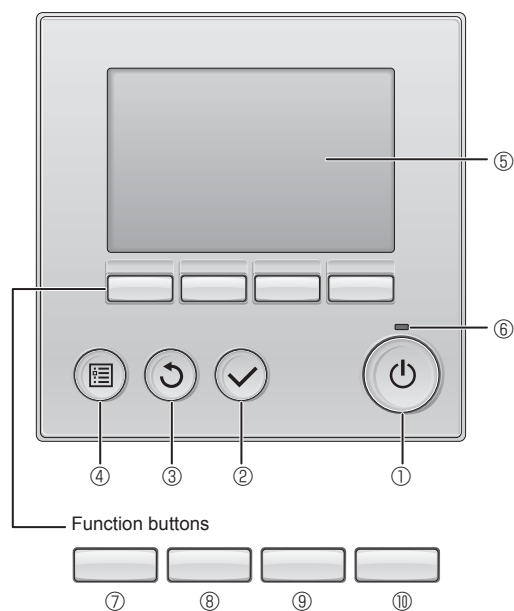

Fig. 7-2
7.3.1. Using wired remote controller (Fig. 7-2)
① [ON/OFF] button